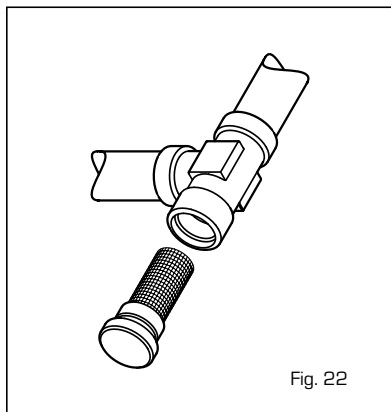

Fig. 22
4.10 CLEANING THE C.H. WATER FILTER "AQUA GUARD" (fig. 22)